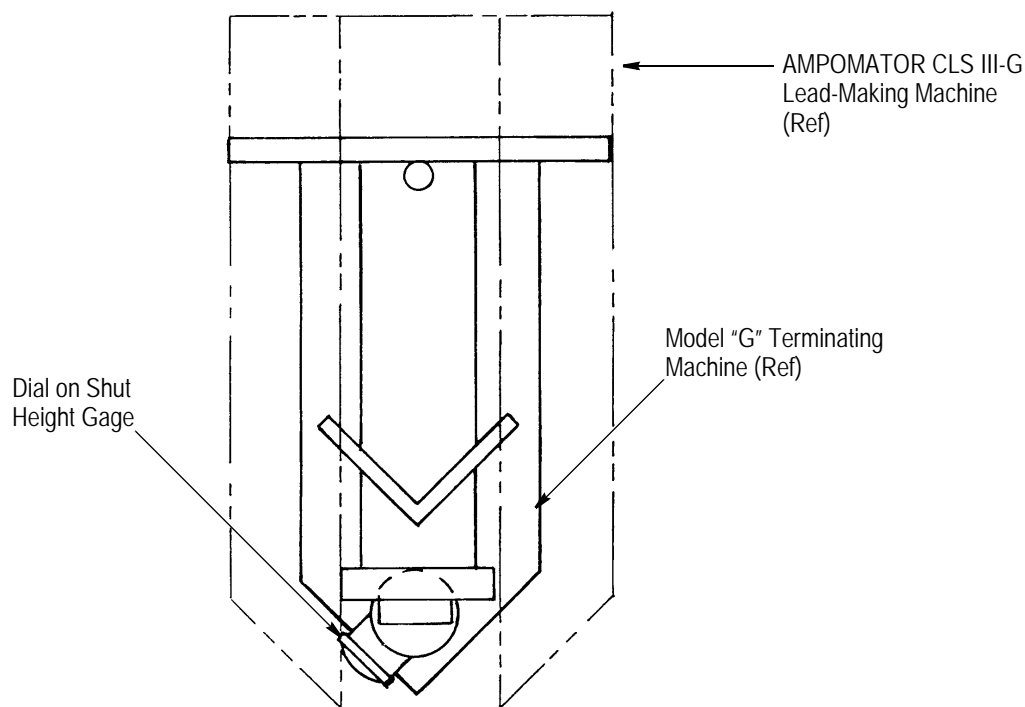

Figure 13
3. Position shut height gage onto base plate, directly under the ram post adaptor. The dial must be oriented as shown in Figure 13.